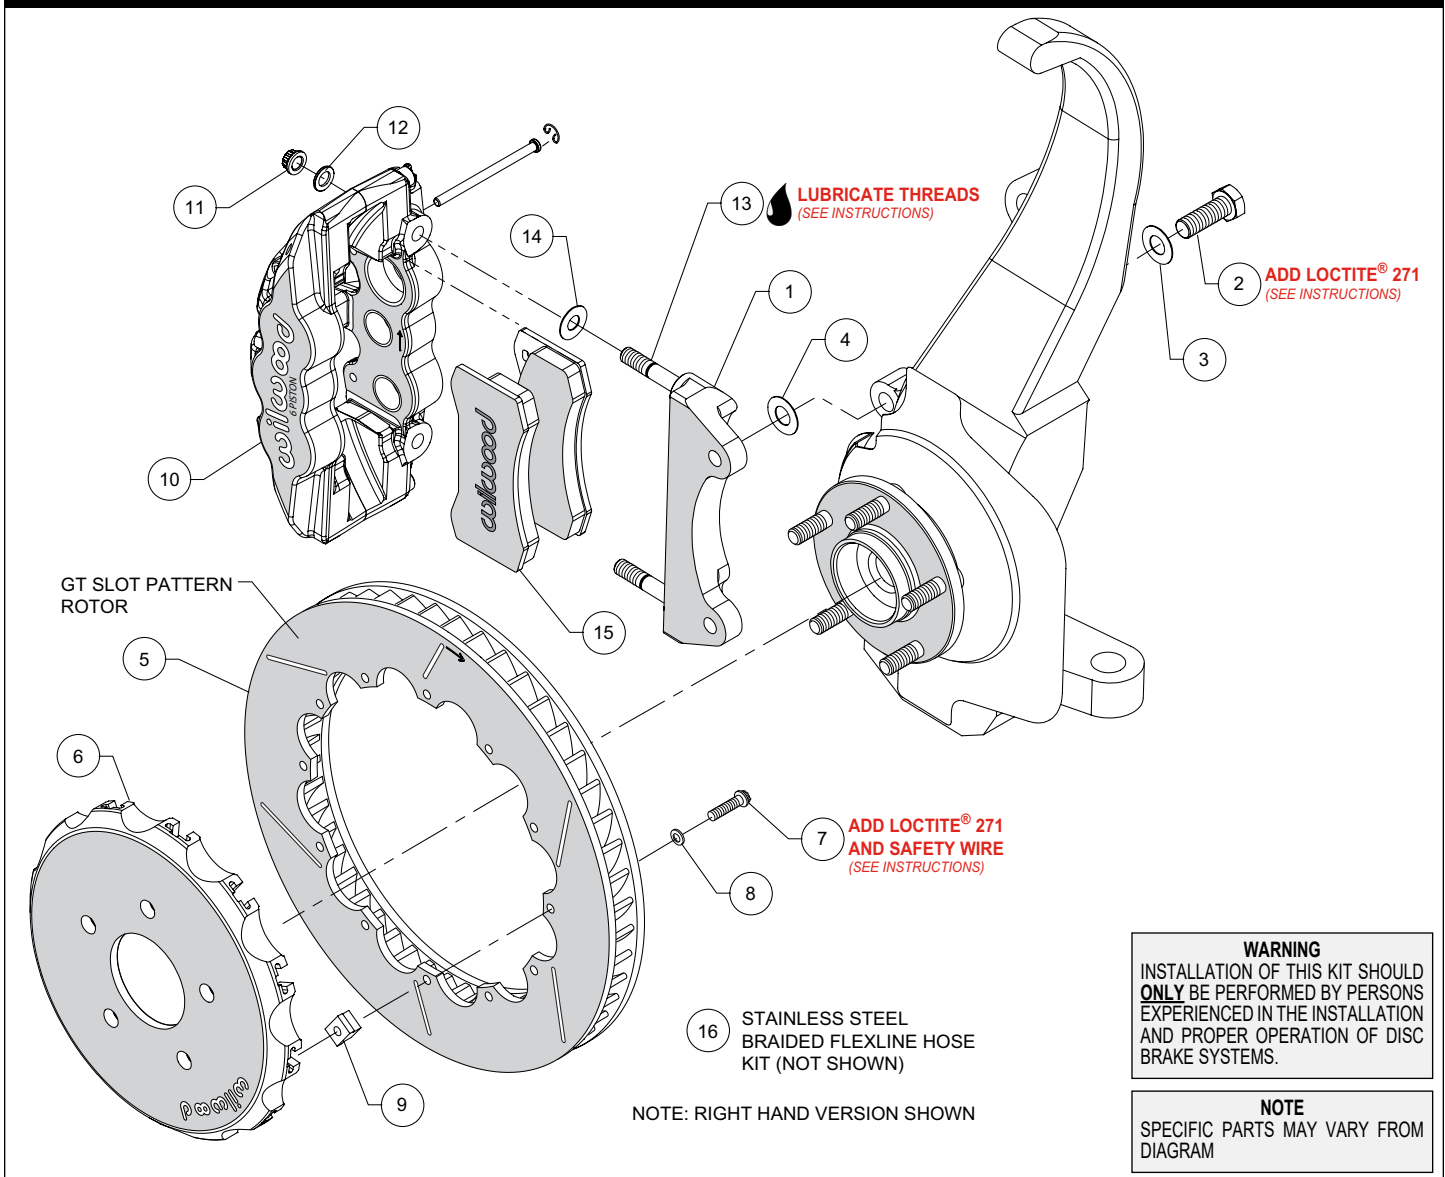

Figure 1. Typical Installation Configuration
**NOTE:** Numbers in parenthesis refer to the parts list and Figure 1 on the preceding pages.
•The caliper mount bracket (1) should initially be installed with clean, dry threads on the mounting bolts. Orient the bracket as shown in Figure 1 and Photo 1, and install using bolts (2) and washers (3). Initially place one .029 thick shim (4) on each bolt between the bracket and upright, Figure 1. Temporarily tighten the mounting bolts. **NOTE:** The bracket must fit squarely against the mounting points on the upright. Inspect for interference from casting irregularities, machining ridges, burrs, etc. Later, after the caliper alignment has been checked, the mount bolts will be secured using red *Loctite*® 271.
•Orient the rotor (5) and the hat (6) as shown in Figure 1 and Photo 2. Attach rotor to hat using bolts (7), washers (8), and t-nuts (9), Figure 1. Follow additional instructions included with the bolt kit. Apply red *Loctite*® 271 to the bolt threads and torque to 120 **in-lb** using a criss-cross pattern. Safety wire bolts using standard 0.032 inch diameter stainless steel safety wire as shown in Figure 4. Please refer to Wilwood's data sheet DS-386 (available at [www.wilwood.com/Pdf/DataSheets/ds386.pdf](http://www.wilwood.com/Pdf/DataSheets/ds386.pdf)) for complete safety wire installation instructions.
•**NOTE:** This kit contains distinct right and left hand calipers that must be mounted in a specific direction, as described below. Lubricate the caliper mounting studs (13) with lightweight oil. Initially place one .030" thick shim (14) on each stud between the caliper and the bracket, as shown in Figure 1 and Photo 3. Mount the caliper (10) onto the bracket (1) using lock nuts (11) and washers (12), Figure 1. Ensure that the caliper is mounted so the largest pistons are at the rotor exit end of the caliper, in relation to the direction of rotor rotation. Temporarily tighten the lock nuts and view the rotor through the top opening of the caliper. The rotor should be centered in the caliper, Photo 4. If not, adjust by adding or subtracting shims (4) between the bracket and the upright. Always use the same amount of shims on each of the two mounting bolts. Once the caliper alignment is correct, remove the bracket mounting bolts (2) one at a time, apply red *Loctite*® 271 to the threads, and torque to 77 ft-lbs.
- Remove the two pad retaining pins from the caliper (10) by carefully popping out the pin retaining clips and sliding out the pins. Insert the brake pads (15) into the caliper from the bottom, Figure 1 and Photo 5. With the friction material facing the rotor, secure the brake pads in place with the pad retaining pins and clips, Photo 6. Reinstall the caliper onto the caliper mounting bracket and temporarily tighten the lock nuts (11). Check that the top of the brake pad is flush with the outside diameter of the rotor, Photo 7. If not, adjust by adding or subtracting shims (14) between the caliper and the bracket. After the caliper pad height is set, torque the caliper lock nuts (11) to 47 ft-lb.